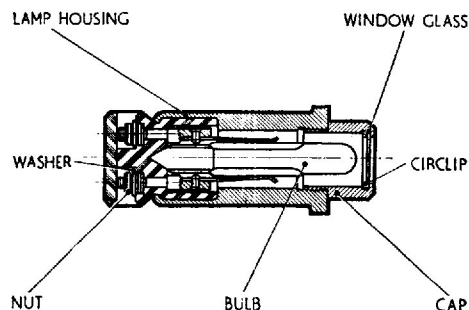

Fig. 1. Typical H3200 series warning lamp
2. The unit (fig. 1) comprises an aluminium body, spun over a bakelite base at one end, and with a dural cap screwed into the opposite end. A beryllium copper contact strip is riveted to both terminals, the latter